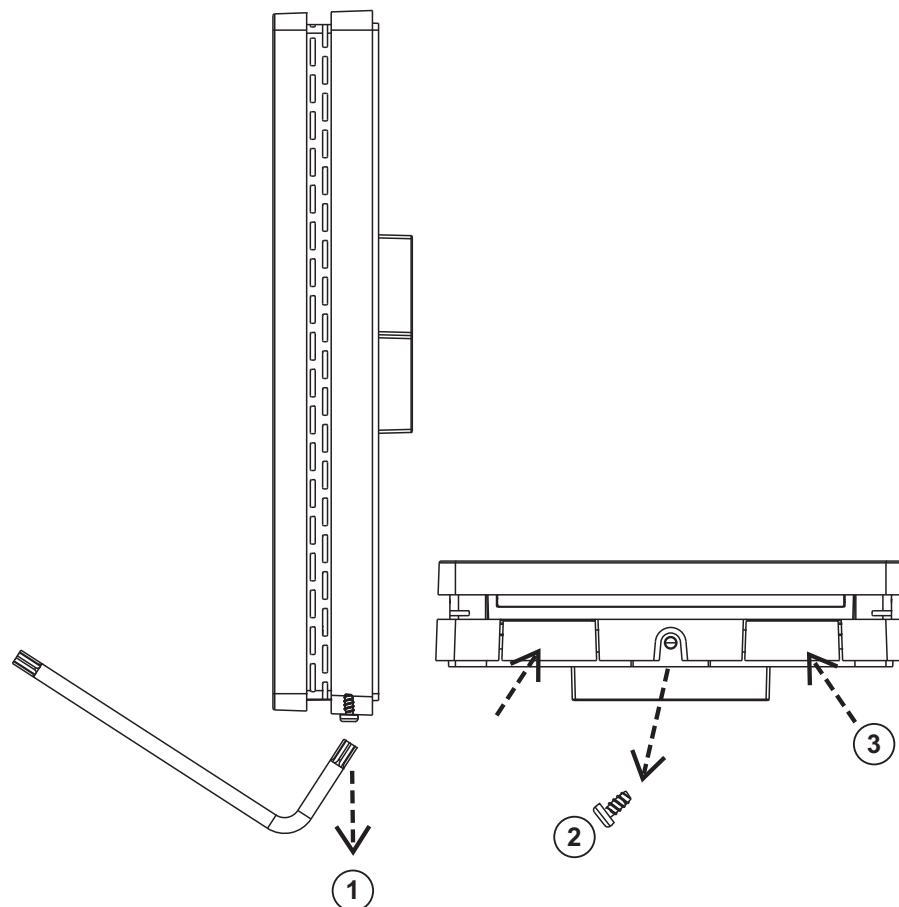

Figure 6 Removal of Microset 4 from the wallplate.
3. Push up the two tabs shown in Figure 6, then pull the bottom of the Microset 4 away from the wallplate. Lift the Microset 4 from the wallplate.